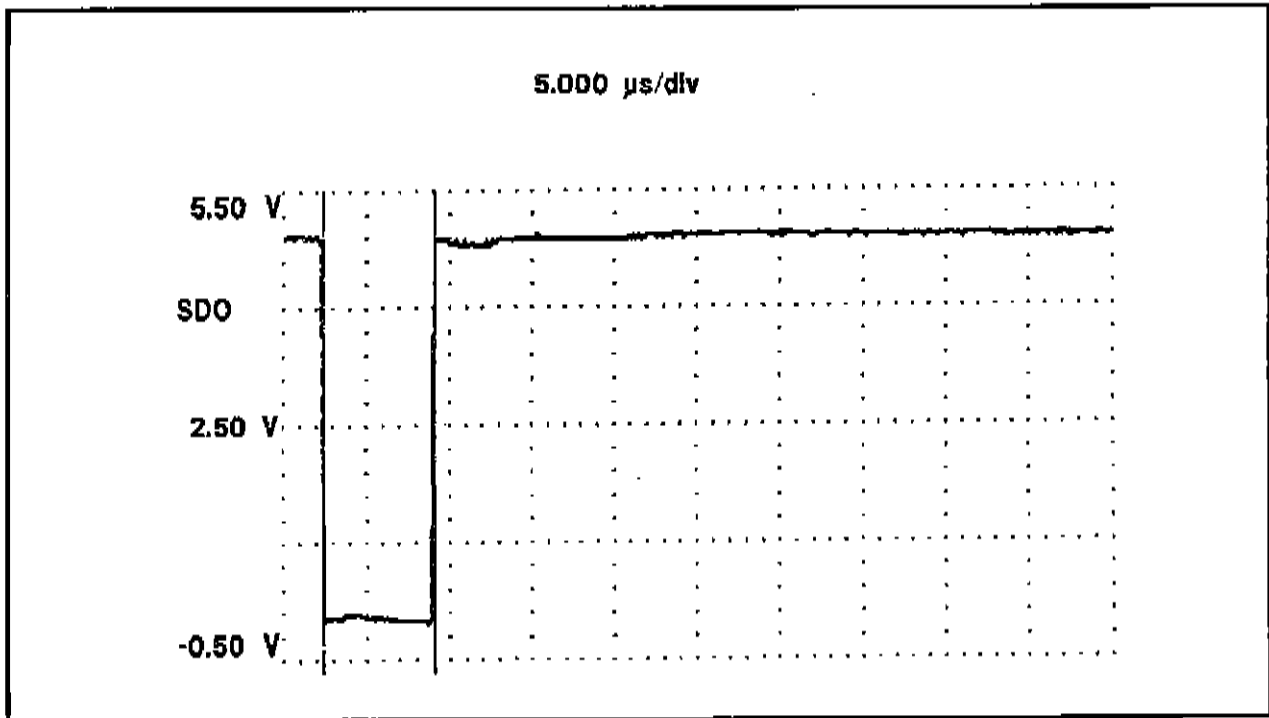

Figure 3-28. TEST 1 or COMMON 1 Scanner PCB SDO Waveform.
10. Observe the TEST 1 Scanner PCB SDO at U1-pin 10 (74HC04) while running the Relay Check utility. Compare with Figure 3-28 and if different, then troubleshoot U1 and U2 on TEST 1 scanner.
19. Observe the COMMON 1 Scanner PCB SDO at U1-pin 10 (74HC04) while running the Relay Check utility. Compare it with Figure 3-28 and if different, then troubleshoot U1 and U2.